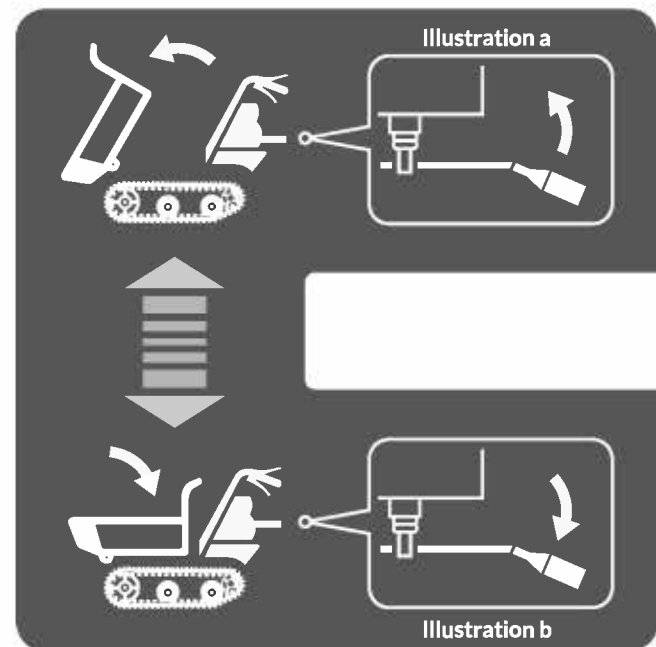

Figure 4
- » To raise the hopper, pull the tipping handle upwards (see **Figure 4, Illustration a**) until the hopper has reached the desired position. To stop raising the hopper, simply release the tipping handle and return the locking plate to its original position.
- » To lower the hopper, first pull the locking plate up with your left hand to release the tipping handle, and then pull the tipping handle down (see **Figure 4, Illustration b**) with the right hand. When the hopper is lowered to the original position, release the tipping handle back to its original position and lock securely with the locking plate.